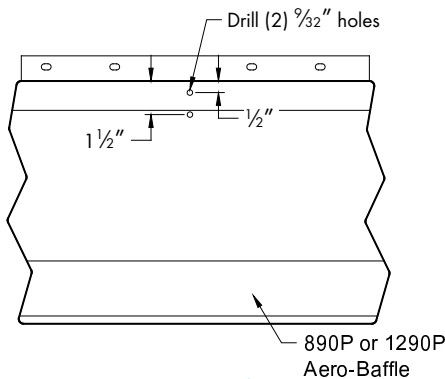

Figure 7A
Drill (2) $\frac{3}{32}$ " holes, centered on length of door. The first hole should be located $\frac{1}{2}$ " down from top of baffle and second hole should be $1\frac{1}{2}$ " from top of baffle. See Figure 7A.